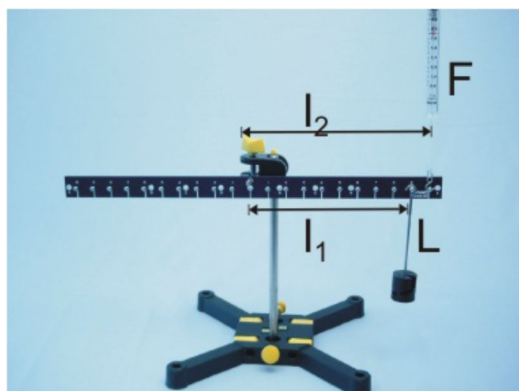

Fig. 6
- Move the lever with the spring balance which is at the 10 mark on the right side into a horizontal position by pulling upwards (Fig. 6).
Calculate the length of the load arm  $l_1$  and the force arm  $l_2$  (see Fig. 6 on the Action page) from the distance between the marks (2 cm each) and add the values to the tables on the Results page.